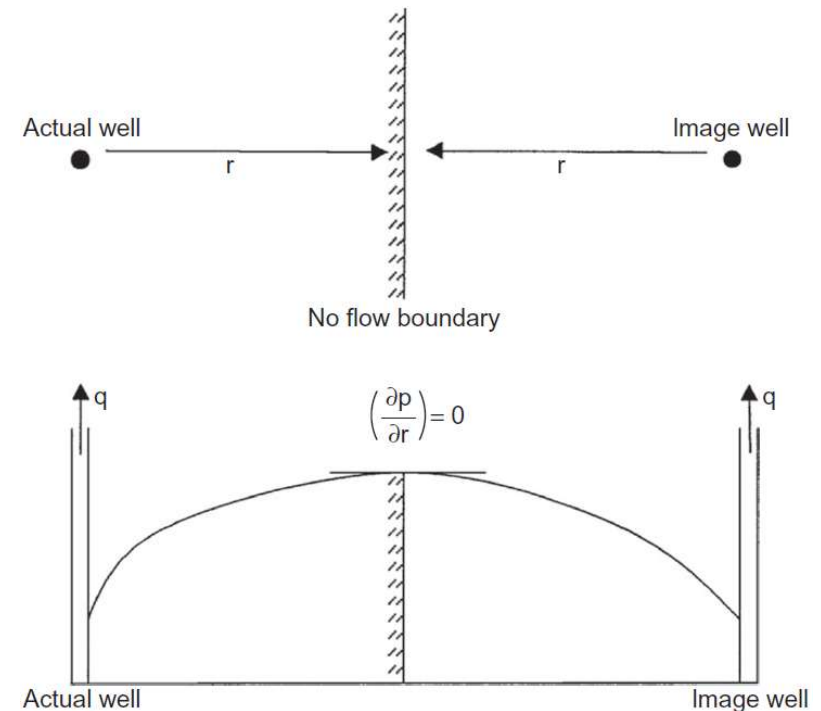

Figure 1: Method of images in solving boundary problems.
- Consider Figure 1, which shows a well that is located a distance r from the non-flow boundary, e.g., sealing fault.